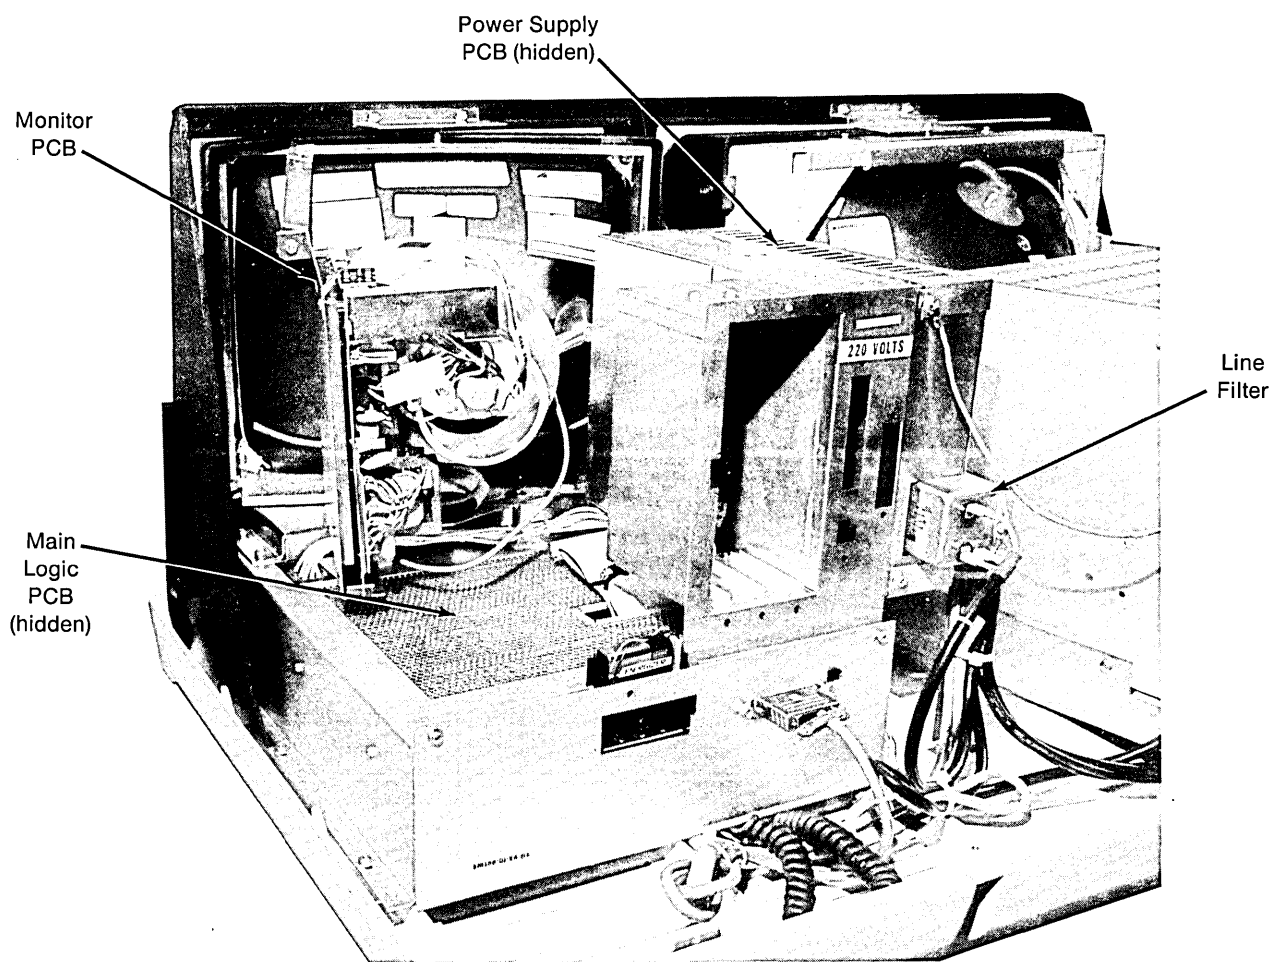

Figure 5-13. Rear of Monochrome Monitor Showing AC Line Filter and PCBs.
2. See figure 5-13. Disengage the three snap-on connections to the ac line filter.